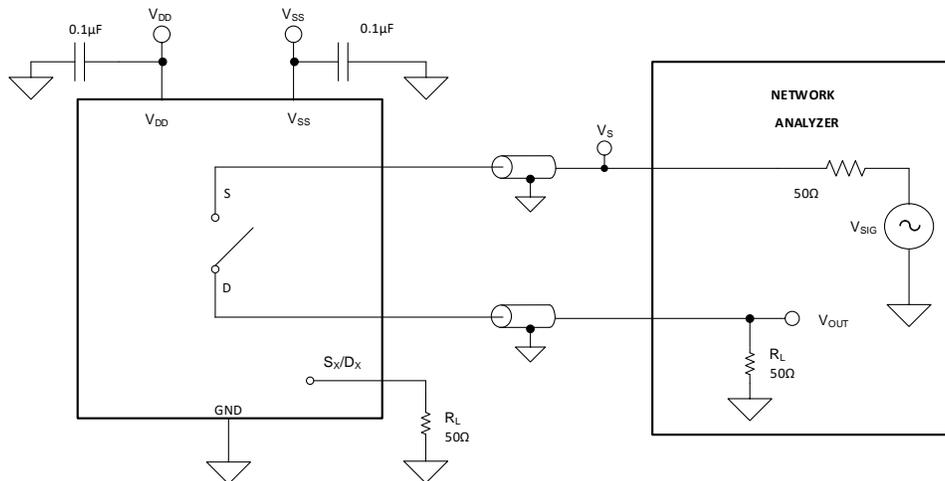

图 25. Off Isolation Measurement Setup
Off isolation is defined as the ratio of the signal at the drain pin (D) of the device when a signal is applied to the source pin (Sx) of an off-channel. 图 25 shows the setup used to measure off isolation. Use the off isolation equation to compute off isolation.